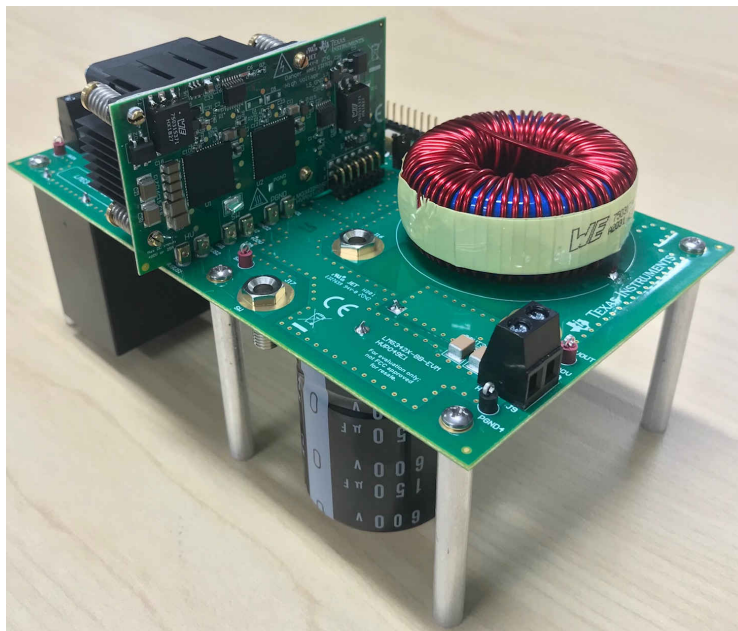
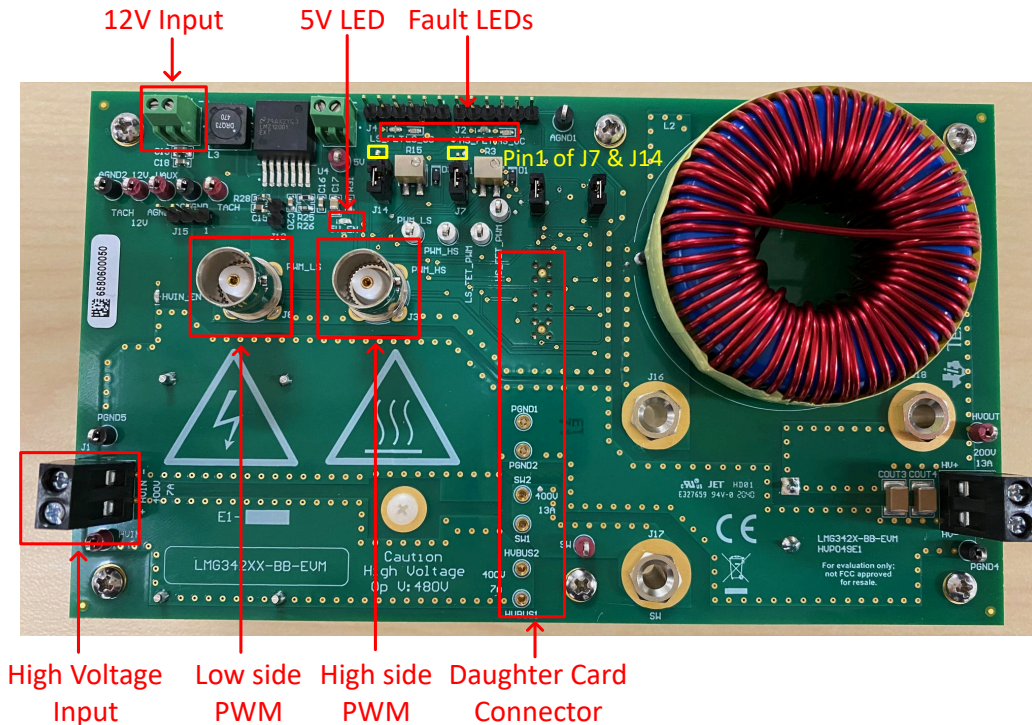

Figure 7-1. LMG342X-BB-EVM Motherboard With LMG342XEVM-04X
Figure 7-2. Connector and LEDs on the LMG342X-BB-EVM
1. Connect the LMG342XEVM-04X to LMG342X-BB-EVM as shown in Figure 7-1. The area for connection on the mother board is shown in Figure 7-2.
6. If two complementary PWM signals with dead time are provided to J3 (high-side PWM) and J8 (low-side PWM), then please connect Pin 1 to Pin 2 for header J7 and J14 (Pin1 of J7 and J14 are indicated in Figure 7-2). This action allows the two PWM signals to directly control the high-side and low-side devices.
9. Connect the signal generator output to the LMG342X-BB-EVM PWM input as shown in Figure 7-2.
10. Connect 12-V, 2-A DC power supply to the LMG342X-BB-EVM 12-V bias supply as shown in Figure 7-2.
11. Connect the high voltage power supply to the LMG342X-BB-EVM high voltage input for buck mode (High Voltage) as shown in Figure 7-2.